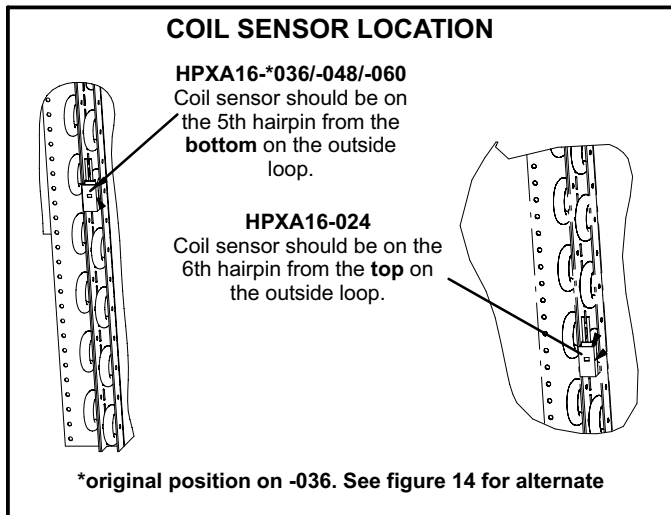

FIGURE 13
**Coil Sensor**—The coil temperature sensor considers outdoor temperatures below -35°F (-37°C) or above 120°F (48°C) as a fault. If the coil temperature sensor is detected as being open, shorted or out of the temperature range of the sensor, the board will not perform demand or time/temperature defrost operation and will display the appropriate fault code. Heating and cooling operation will be allowed in this fault condition. See figure 13 for location.